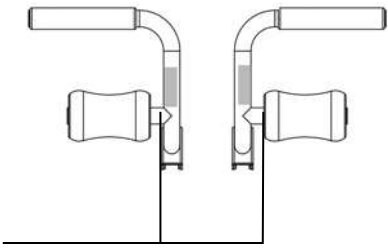
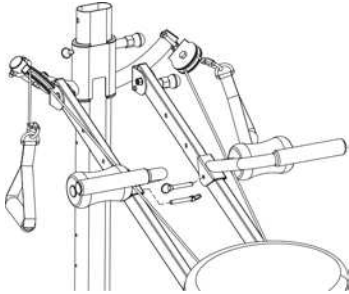

FIGURE 1
FIGURE 2
If the Stopper at the bottom of the Vertical Column has not already been installed, please do so now. Locate the Stopper which is packed in Miscellaneous Accessories (**See** Product Specifications on page 4 of this manual). Unscrew nut on the end of the Stopper and remove. Insert the Stopper into the hole located in the center of the Back Crossbar (See Fig. 1). Screw the nut back onto the Stopper and tighten with Allen Wrenches provided (See Fig. 2).
2. Then attach Foam Pads on the Crossbars as shown in Figure 1. Let dry before beginning to exercise with the Multi Function Attachments.
3. Insert the 2 Short Hitch Pins through the holes on the Multi Function Attachment Brackets and the hole on the Rails, as shown in Figure 2.